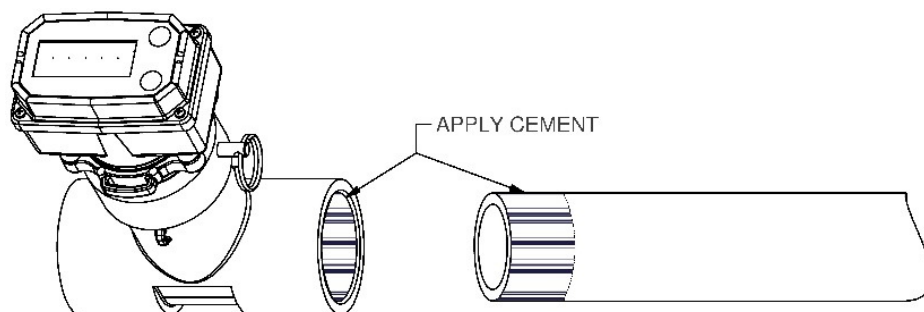

Figure 6
3. Apply PVC cement to pipe ends and Tee sockets and quickly assemble the parts while the cement is fluid, following the cement manufacturer's instructions (see Figure 6).